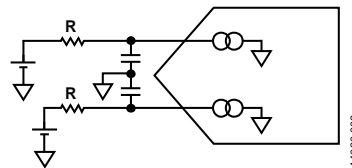

Figure 6. Pseudo Differential ADC
- Both inputs connect to a high impedance source (see Figure 6). The error is the same as when using a true differential signal.